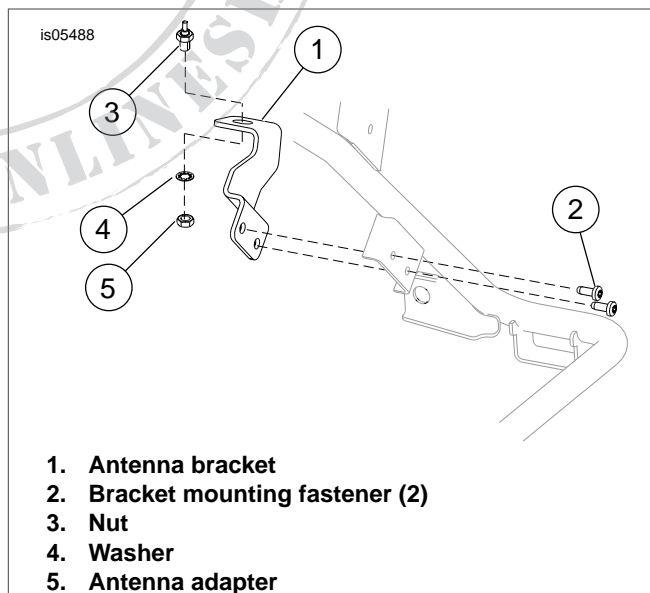

Figure 1. Remove Antenna and Bracket
- a. Support muffler assembly with a block of wood or other suitable method. Remove the screws (F) securing saddlebag guards to muffler supports.
- b. Remove screws (B and C) and nut (E). Save screws (B and C) for installation. Discard nut (E).
- c. Remove bolt (M) and nut (P). Save bolt (M) for installation. Discard nut (P).
- d. Remove support (D) and discard. Repeat for other side.
- e. Remove stud receptacle (I) and save for installation.
- f. See Figure 1. Remove antenna bracket (1), mounting fasteners (2), antenna mounting nut (5), washer (4) and antenna adapter (3). Save the antenna and hardware, discard the bracket.